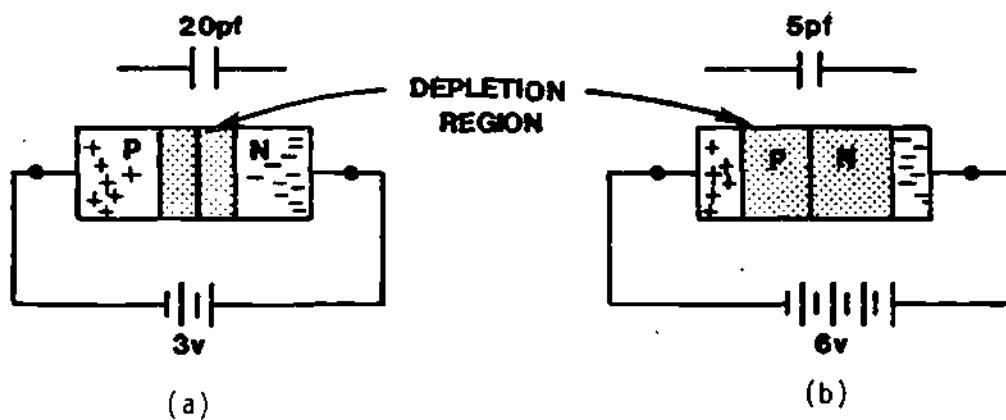

Figure 21
(23) In a varactor diode, the ratio of capacitance change to reverse bias voltage change may be as high as 10 to 1. An example of capacitance change to voltage change ratios is shown in Figure 21.
In Figure 21(a), the reverse bias is 3 volts which produces a capacitance of 20 pF. If the reverse bias is increased to 6 volts, the change in reverse bias is 3 volts. In Figure 21(b), you can see that at 6 volts the capacitance has dropped to 5 pF, which is a change of 15 pF. Therefore, this example shows a 15 pF capacitance change to a 3 volt reverse bias change. Simple division shows that the change ratio is 15 divided by 3, or 5 to 1. You should notice that the increase in reverse bias voltage causes a decrease in varactor capacitance. If the reverse bias voltage were decreased, the capacitance would increase. Also notice that the value of varactor capacitance is very small (picofarad, 10⁻¹² range).